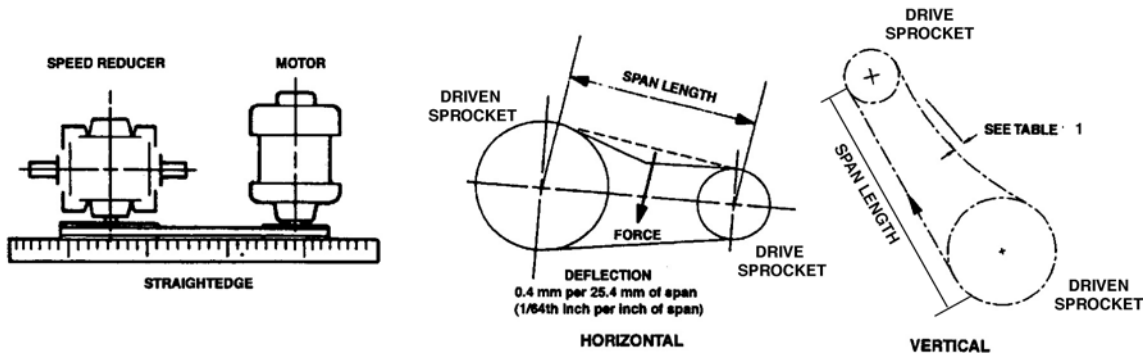

Figure 7: Reducer/Motor Alignment and Tension Adjustment
1. Check the sheave alignment between the motor and speed reducer by placing a straight edge across the face of the sheave faces (Figure 7). Inside and outside sheave diameters should be touching the straight edge at all four points as shown in the illustration. Alignment of the sheaves should be within ± 0.5 degrees or 1/8" per foot (3 mm per 0.3 m).
- Measure the span length as shown in Figure 7.
- Check belt tension by pressing firmly on the individual belt. A belt that can be depressed an amount equal to 1/64th inch per inch of span (0.4 mm per 25.4 mm of span) is properly tensioned (Figure 7).
1. Check sprocket alignment using a straight edge or taut cord stretched across the faces of the drive sprocket and the driven sprocket (Figure 7). The tolerance is ± 0.5 degrees or 1/8" per foot (3.5 mm per 0.3 m).
3. Check roller chain tension. Deflection of the span is shown in Figure 7 and Table 1.